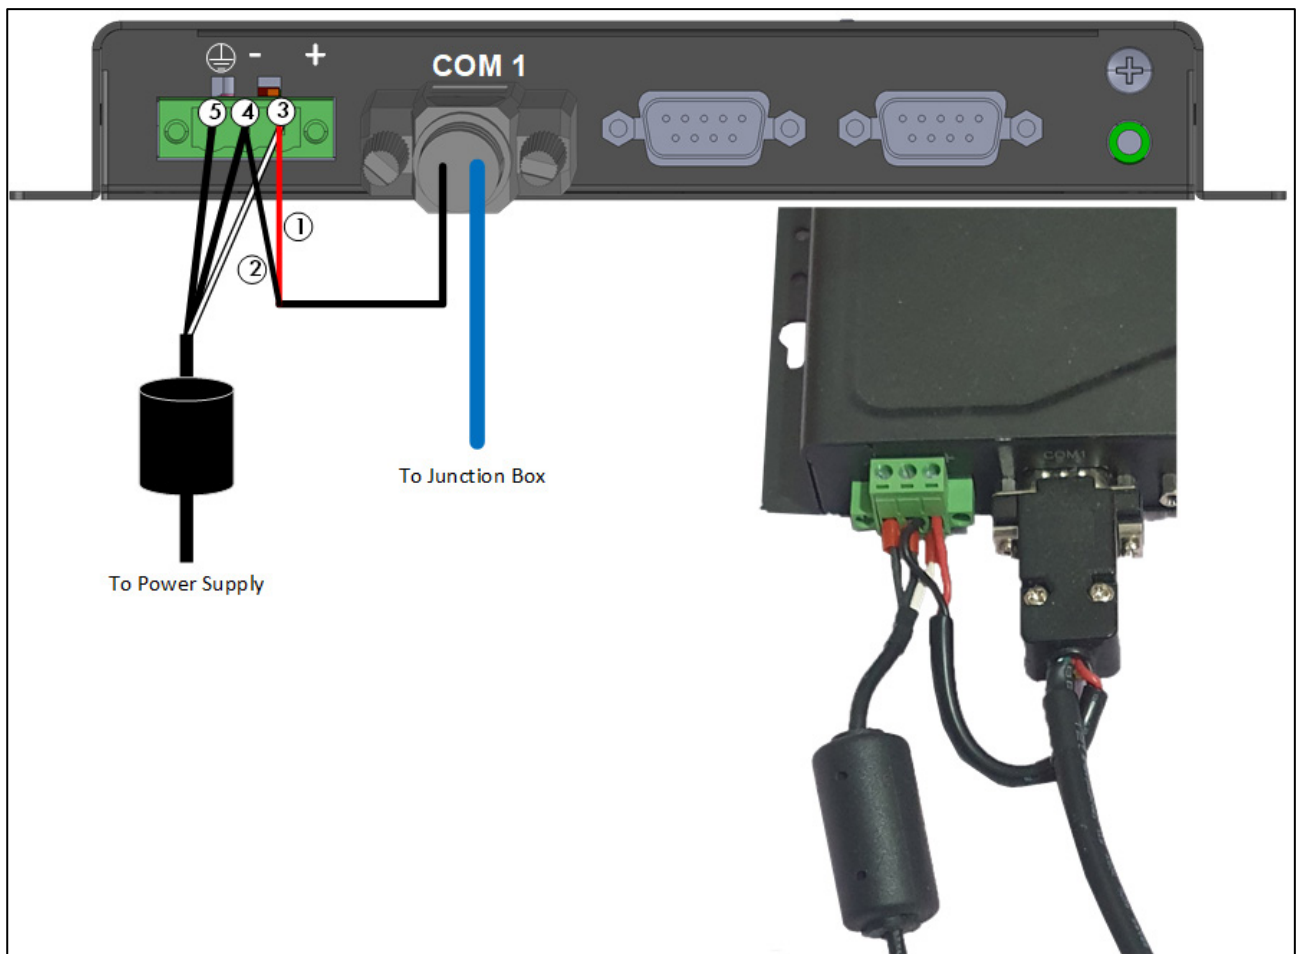
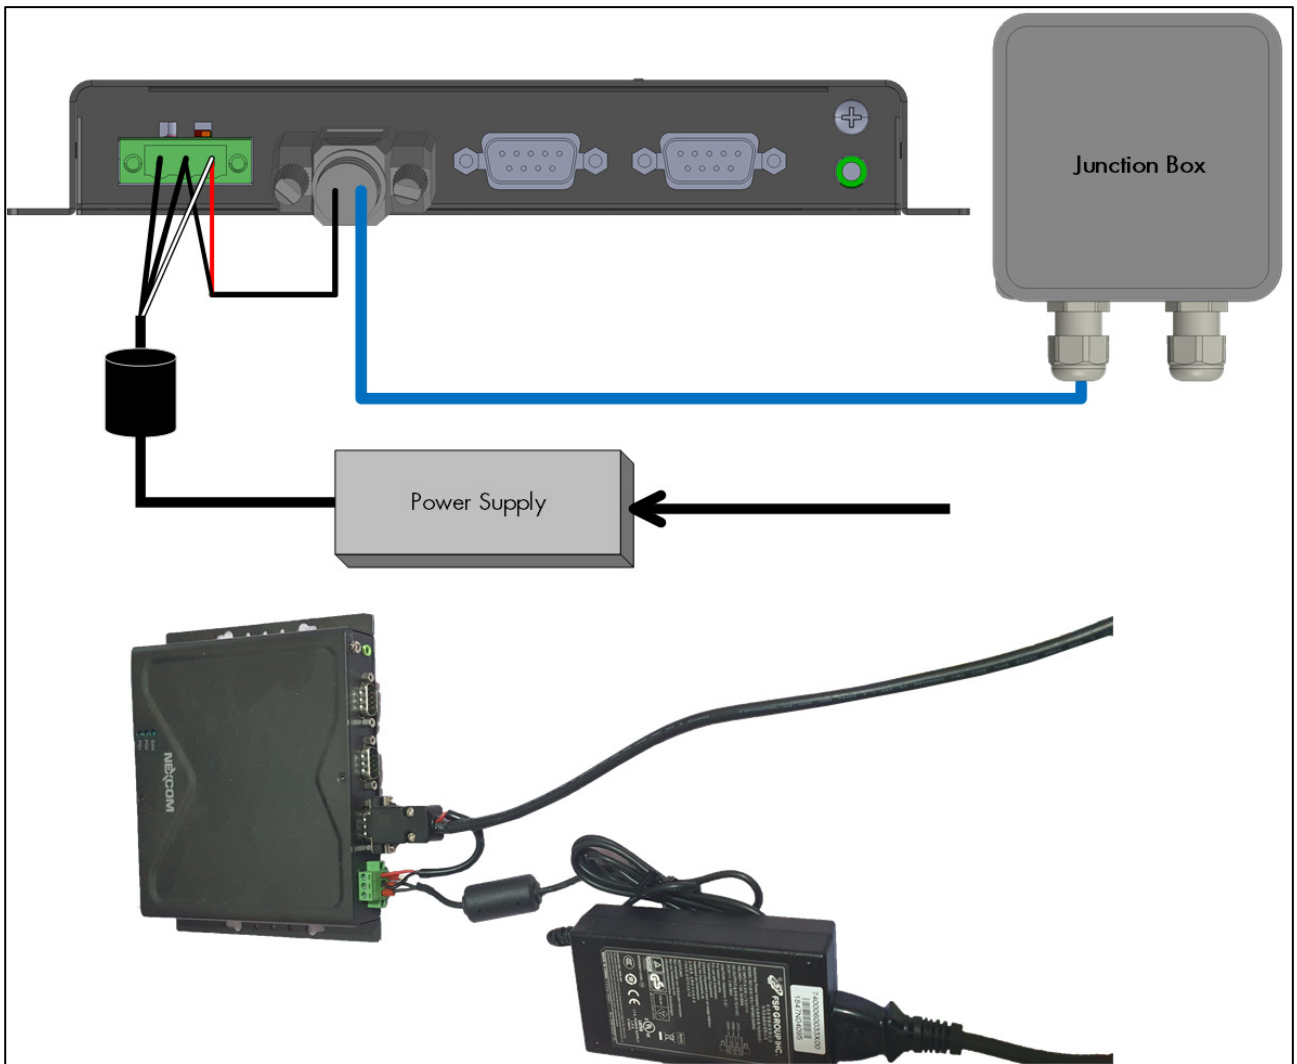

Figure 11: Junction Box Wiring to CommBox
Figure 12: Power Supply – CommBox – Junction Box Setup
2. Insert the two wires coming from the Junction Box cable into the ports (see Figure 11 and Figure 12).